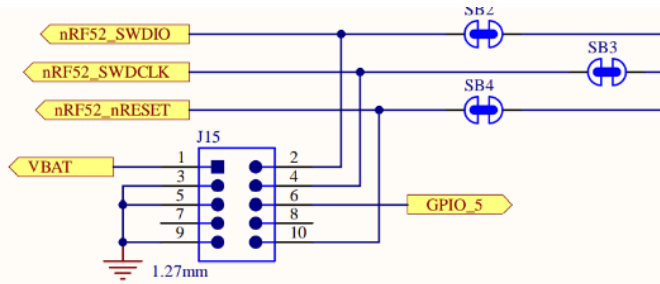

Figure 9: NX040 development board SWD schematic
**Note:** Reference on the NX040 development board schematic (Figure 9) shows the DVK development schematic wiring only for the SWD (JTAG) connector and the NX040 module JTAG pins.
A SWD (JTAG) is required to load firmware on the module. It is strongly recommended to bring the SWD (JTAG) interface to a header or test pads on your host design so you can update module firmware. You can wire out the JTAG (2-wire SWD interface) on your host design (see Figure 9, where the following four lines should be wired out – SWDIO, SWDCLK, GND, and VBAT).
Recommend that you place JTAG (2-wire interface) to provide additional capability to handle future NX040 module firmware upgrades. Recommend placing the JTAG (2-wire interface) on your host design (see Figure 9 where four lines should be wired out, namely SWDIO, SWDCLK, GND and VBAT). Firmware upgrades can also be performed over the NX040 UART interface.